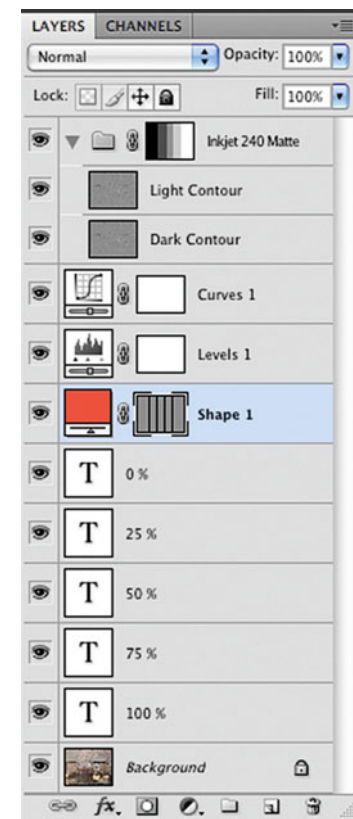

FIGURE 15.31 Photoshop Layers palette used to create the output sharpening print test in Figure 15.30.
FIGURE 15.30 Output sharpening print test to help determine the opacity to use for the sharpening layer created with PixelGenius PhotoKit Output Sharpener. The Photoshop layers used to create the test are shown in Figure 15.31.
5. Add lines and, possibly, text to make it easier to evaluate the resulting print, as shown in Figure 15.30. (Figure 15.31 shows the layers used to create this test.)